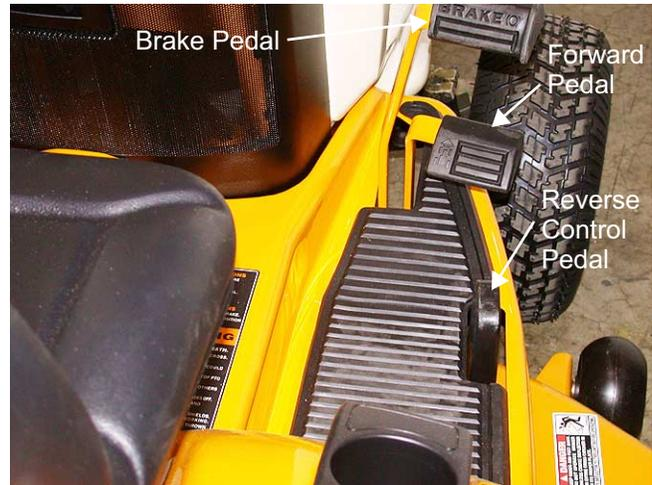

**Figure 1.3**
- 1.3. With the steering wheel removed for clarity, you are able to view the dash controls, moving from left to right you can see the throttle control, choke control, low oil indicator, hour meter that operates whenever the ignition switch is on. The hour meter records the actual hours of operation to ensure all maintenance procedures are completed according to the schedule in the owner's manual. The PTO switch is next which operates the front PTO clutch to the cutting deck. The ignition switch is a combination four-position switch: lights, on-off and start. See Figure 1.3.